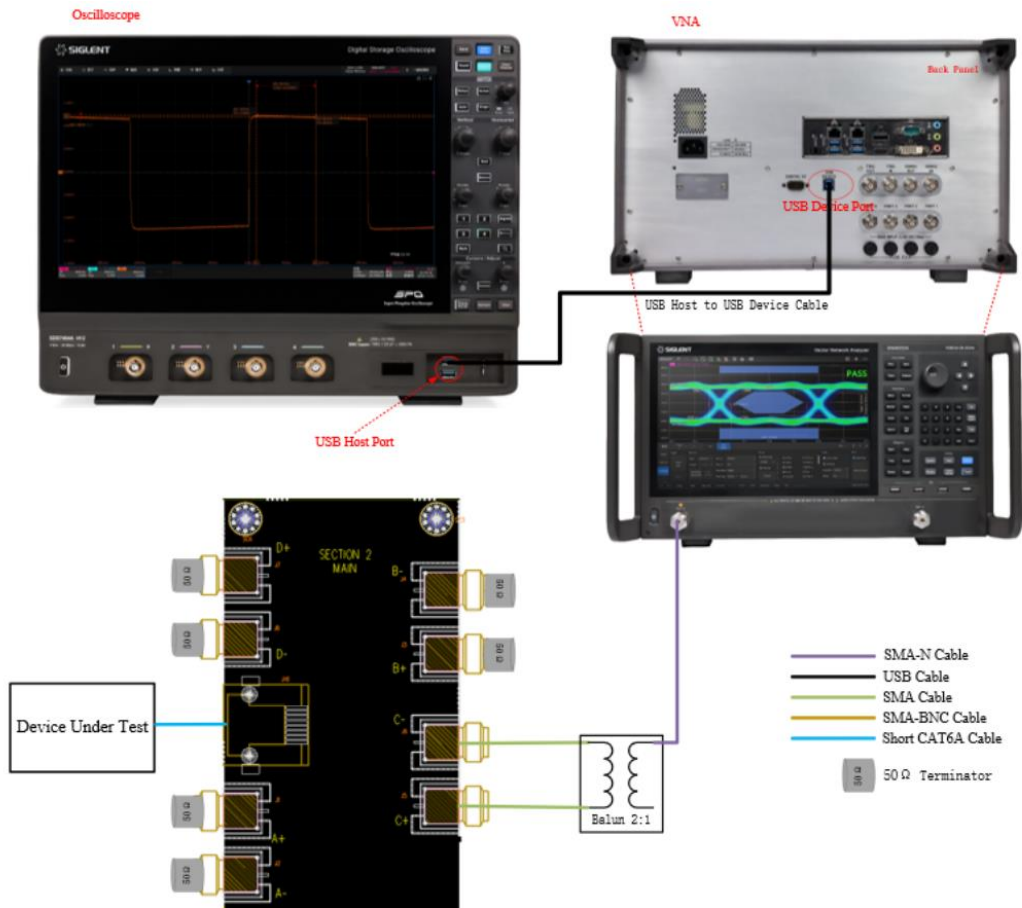

Figure 5-5 MDI Return Loss Test Connect
- Test Connect: The Connect method is shown in Figure 5-5. The steps are:
- 1) Connect two equal-length SMA cables to the input of the balun and the corresponding test points in area ② of the test fixture: DA (J1, J2), DB (J3, J4), DC (J5, J6), DD (J7, J8).
- 3) Install 50 Ω termination matchers on the untested signals in area ② of the test fixture.
- 5) Connect one end of a short Ethernet cable to connector J16 in area ② of the test fixture and the other end to the DUT.